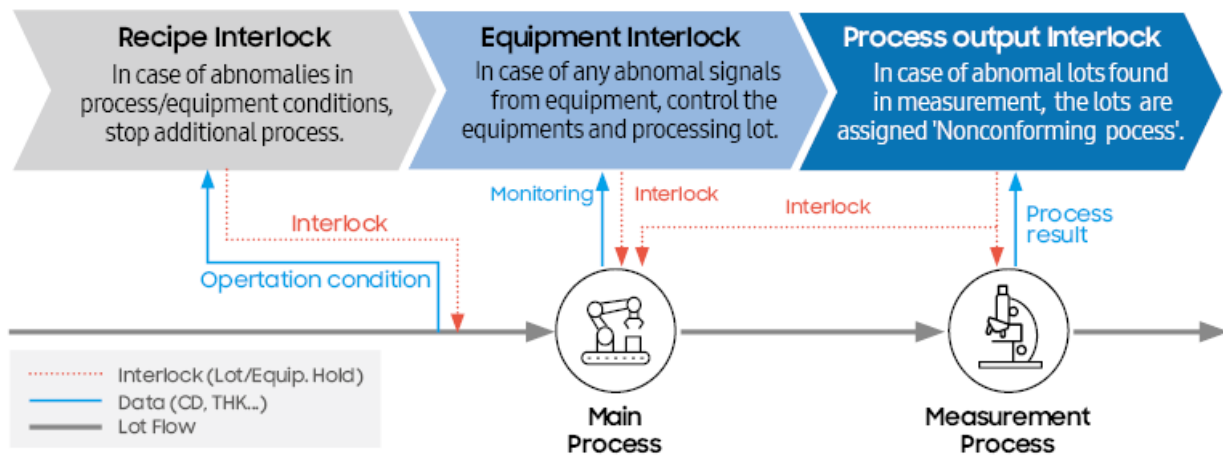

Figure 5-3. Samsung's interlock system
**Interlock System:** Throughout the manufacturing process, critical parameters are monitored and tracked by interlock systems. The critical parameters may include machine input(Equipment Control)/output(Fault Detection Control) and process input(Recipe) / output(CD, thickness, etc.). In wafer fabrication process, a three-stage protection system is operated as shown in Figure 5-3.